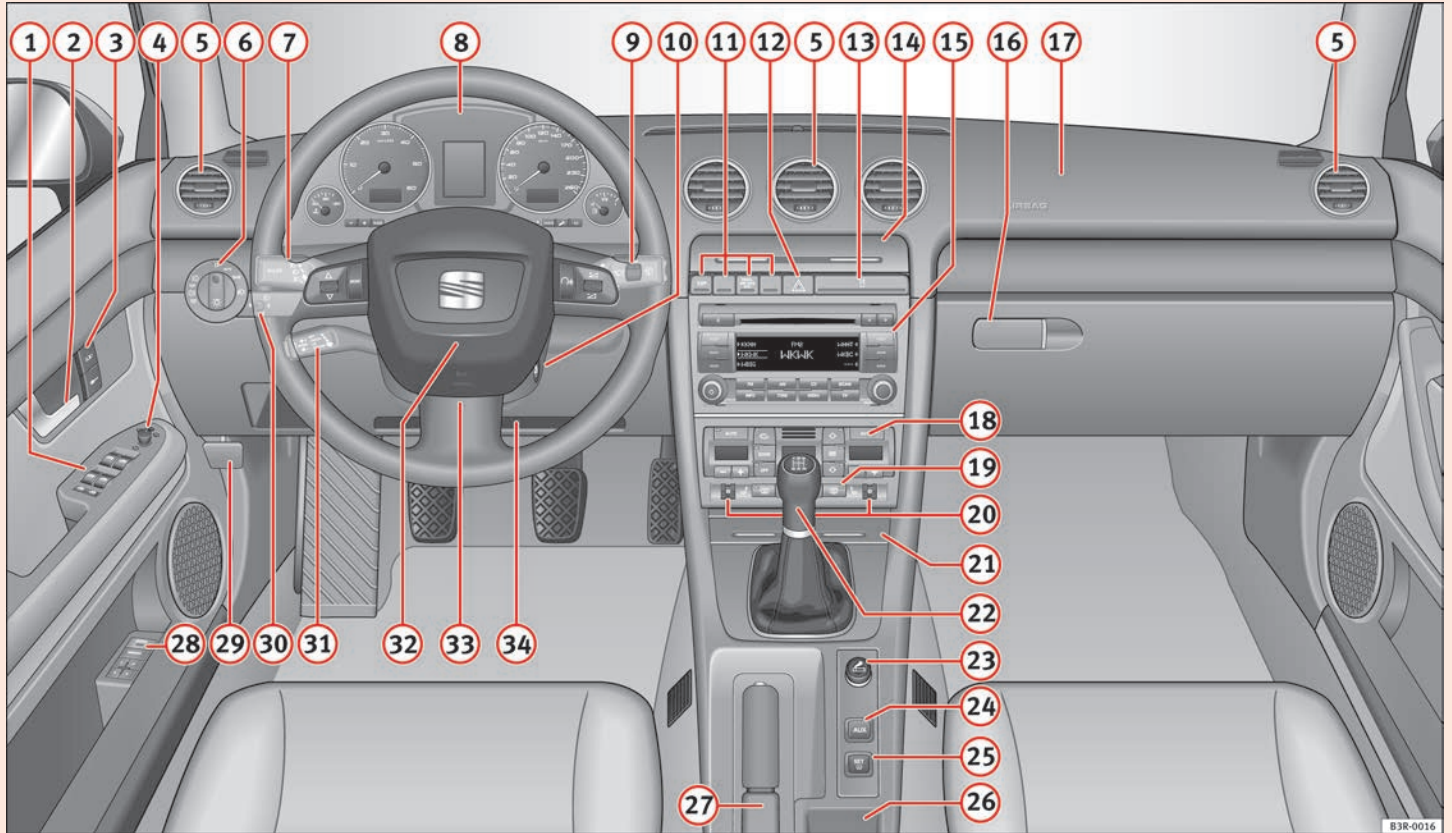

Fig. 36 Some of the equipment listed in this section is only fitted on certain models or are optional extras.
- The arrangement of switches and controls on right-hand drive models* may be slightly different from the layout shown in ⇒ page 56, fig. 36. However, the symbols used to identify the controls are the same. ■